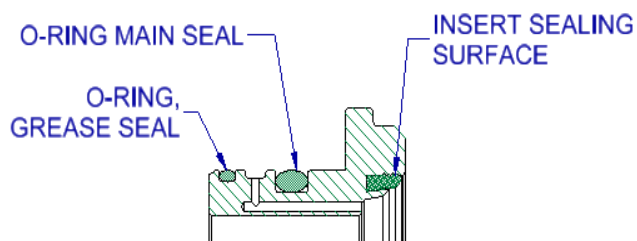

Fig.3.0 Seat Detail for 6" to 12"
3. Inspect the seats, paying careful attention to the insert sealing surfaces. Reject and replace all seats with dings, scratches, or any other physical defects. Install the O-rings as shown in Fig. 3.0 Apply lubricant until completely covering the O-rings.